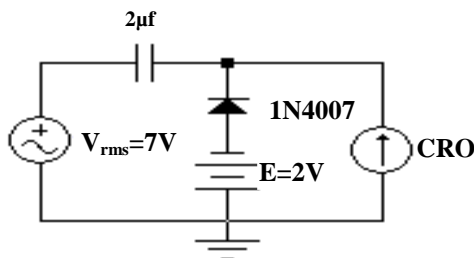

Fig. 4
1. Set up the experiment as in Fig. 4.